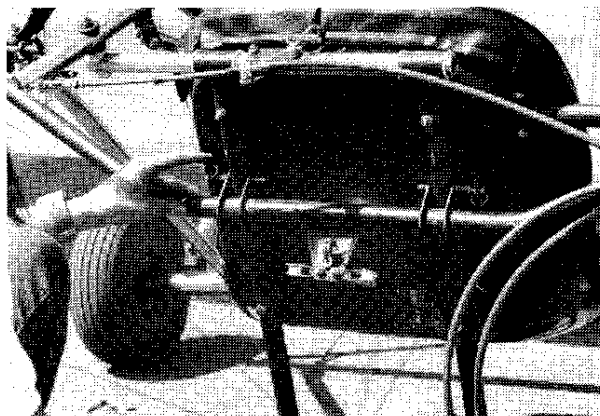

Figure 2.42
- 48.** Attach seat using (2) 1/4" dia. T-handle pins and safety rings. **Figure 2.42**